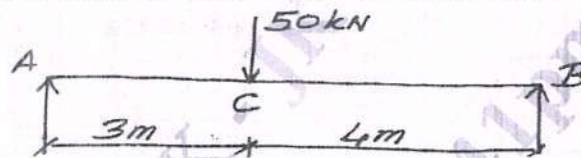

Fig.Q4(b)
- b.** Find the deflection under the load for the beam shown in Fig.Q4(b), by using Castiglino's theorem. Take  $E = 2 \times 10^8 \text{ kN/m}^2$  and  $I = 14 \times 10^{-6} \text{ m}^4$ .